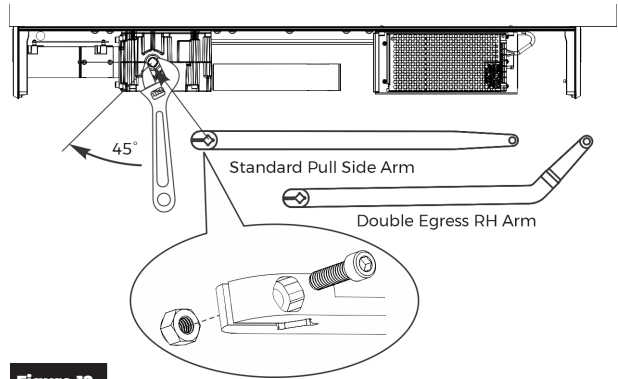

Figure 12
1. Using an adjustable wrench, rotate top pinion 45 degrees toward door hinge. You will feel resistance from spring. (Figure 12)
2. **While holding pinion at 45 degrees**, slide arm on bottom pinion at orientation shown. (Figure 12)